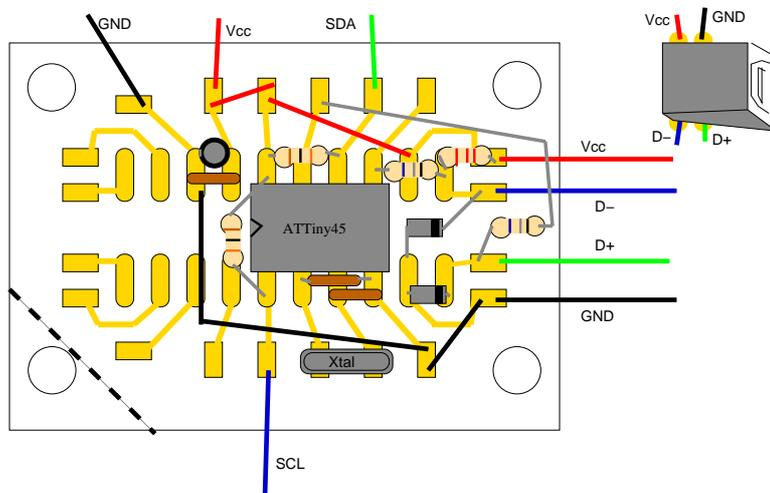

Figure 4: Layout of USB to i2c board.
1. Build the USB/i2c board as described in Figure 4.